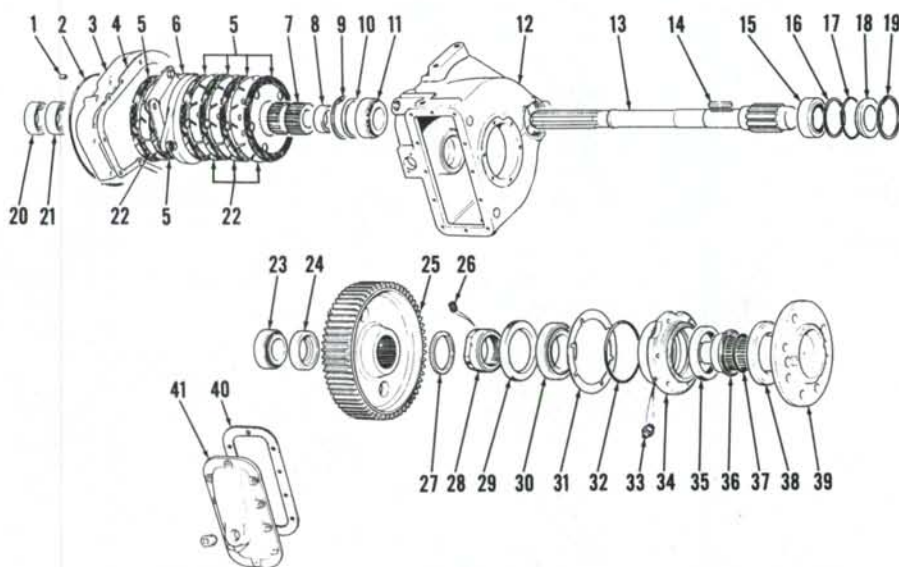

Fig. 218—Exploded view of Model 1594 and 1690 final drive showing component parts and their relative positions.
284. DISASSEMBLY. It is not necessary to remove cab or platform to service final drives. Stub axle (39—Fig. 218) and bull gear (25) can be removed without removing final drive housing.
285. REASSEMBLY. Heat axle shaft bearings (11 and 15—Fig. 218) to 120°C (250°F) maximum before installing on shaft. Install spacer (8) and keys (14) making sure keys are bottomed in keyways. Heat brake hub (7) to 200°C (400°F) maximum, then install on axle shaft with longer splines toward bearing cone.